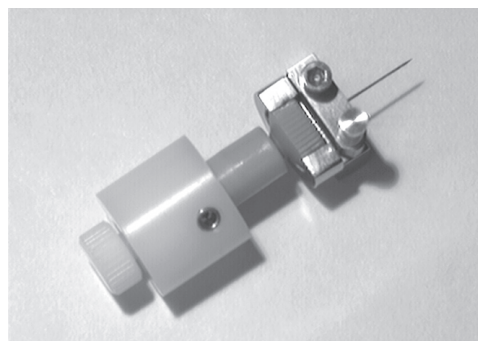

Figure 23
7. Finger-tighten the white gauge plug into one side of the union or 1/16" adapter (see Figure 23).
8. Screw the assembled MicroTight™ fitting with clamping mechanism into the 6-32 end of the adapter, making sure that the tubing and sleeve are flush against the gauge plug. Do not over tighten (Figure 23).